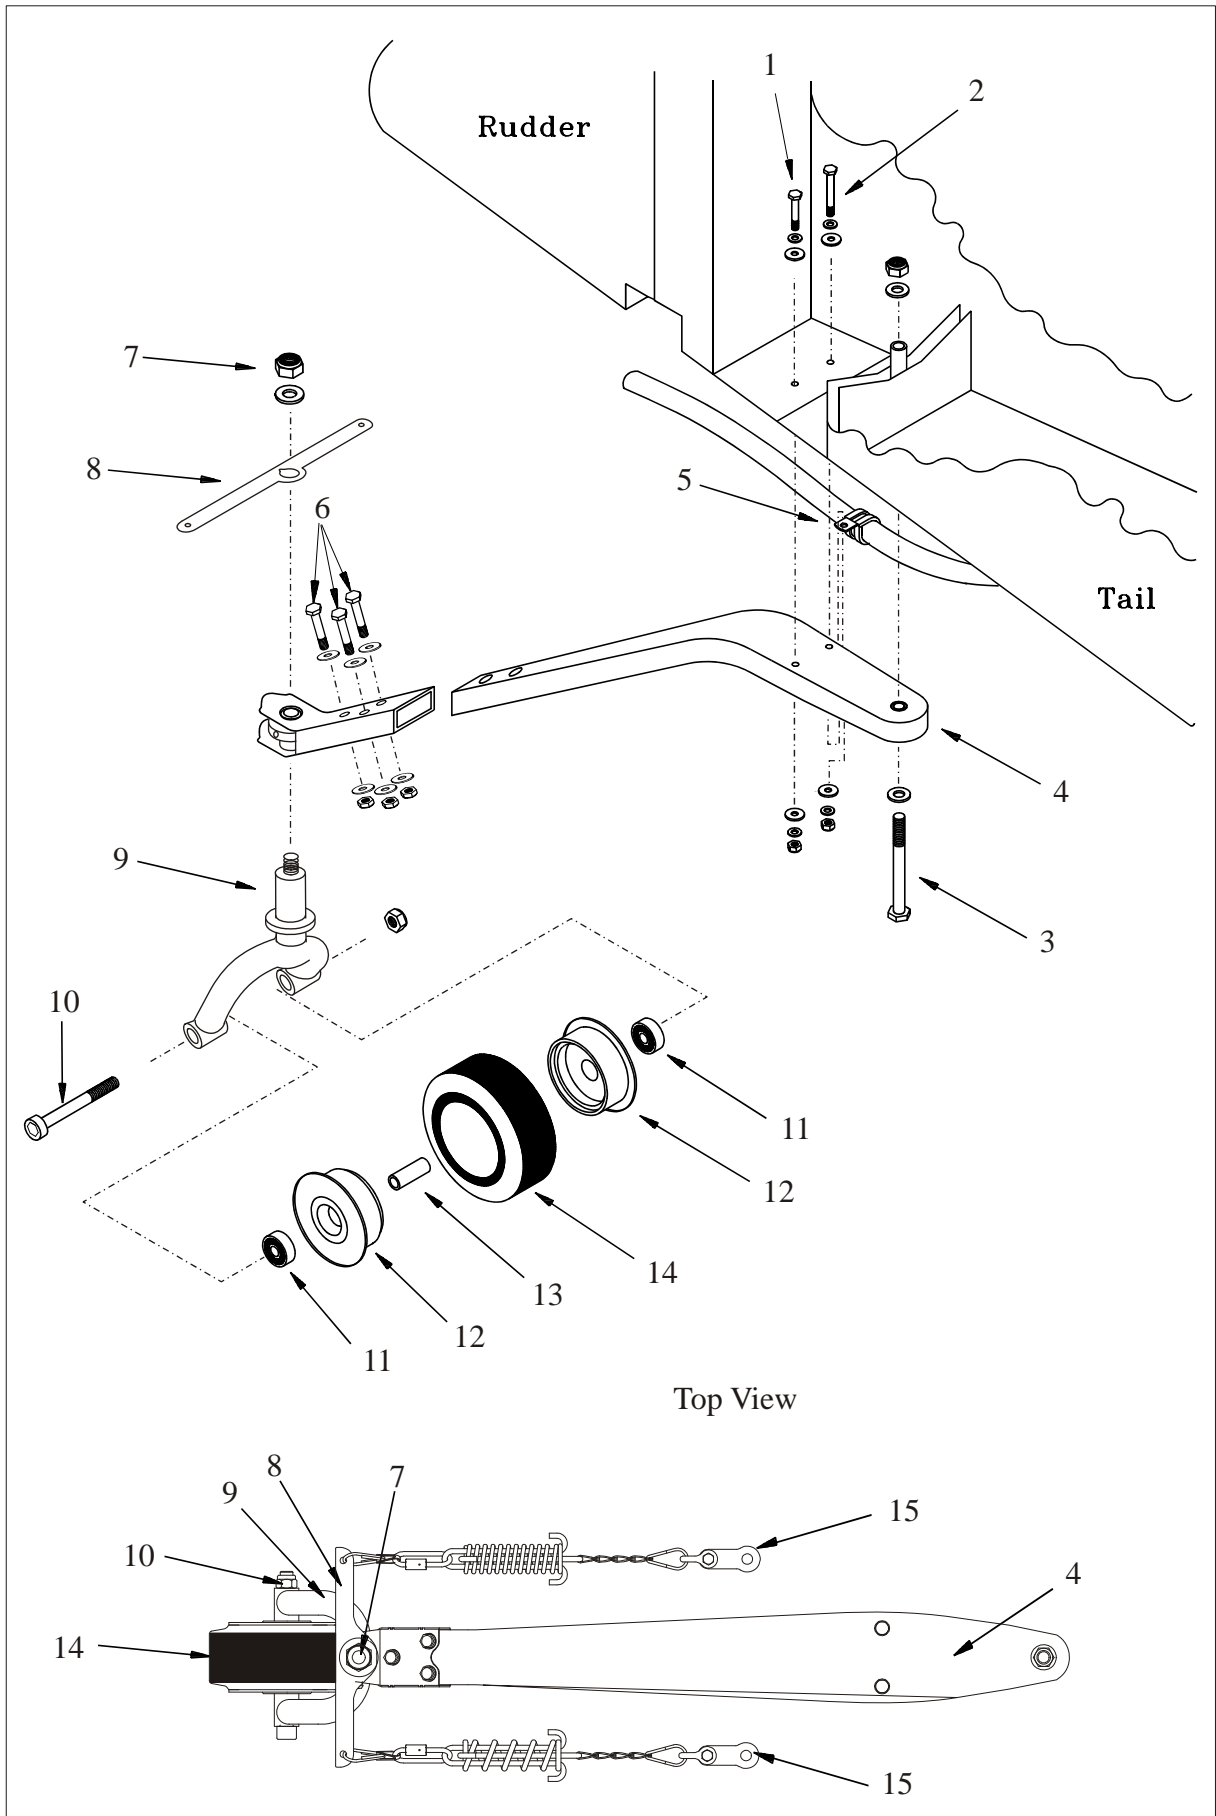

Figure 3
Refer to Figure 3.
- 2 Remove the attachment bolt (10, Figure 3), washers, and stop nut.
- 4 Disassemble the bearings, the wheel halves, the spacer sleeve, and the solid rubber tire (11 thru 14, Figure 3).